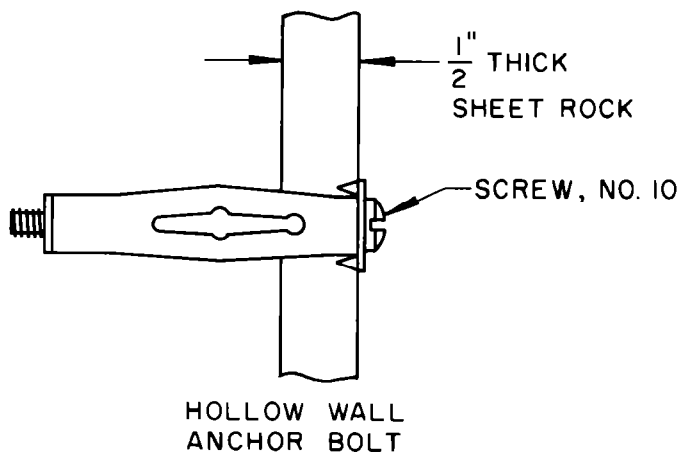

Figure 5
8. Insert four hollow wall anchor bolts into the four $\frac{7}{16}$ " dia. holes in the sheet rock. Anchor bolts are provided in installation pack. Rotate anchor bolts screws 5-10 revolutions to hold each anchor bolt in place. These will be completely tightened later. (See Figure 5).